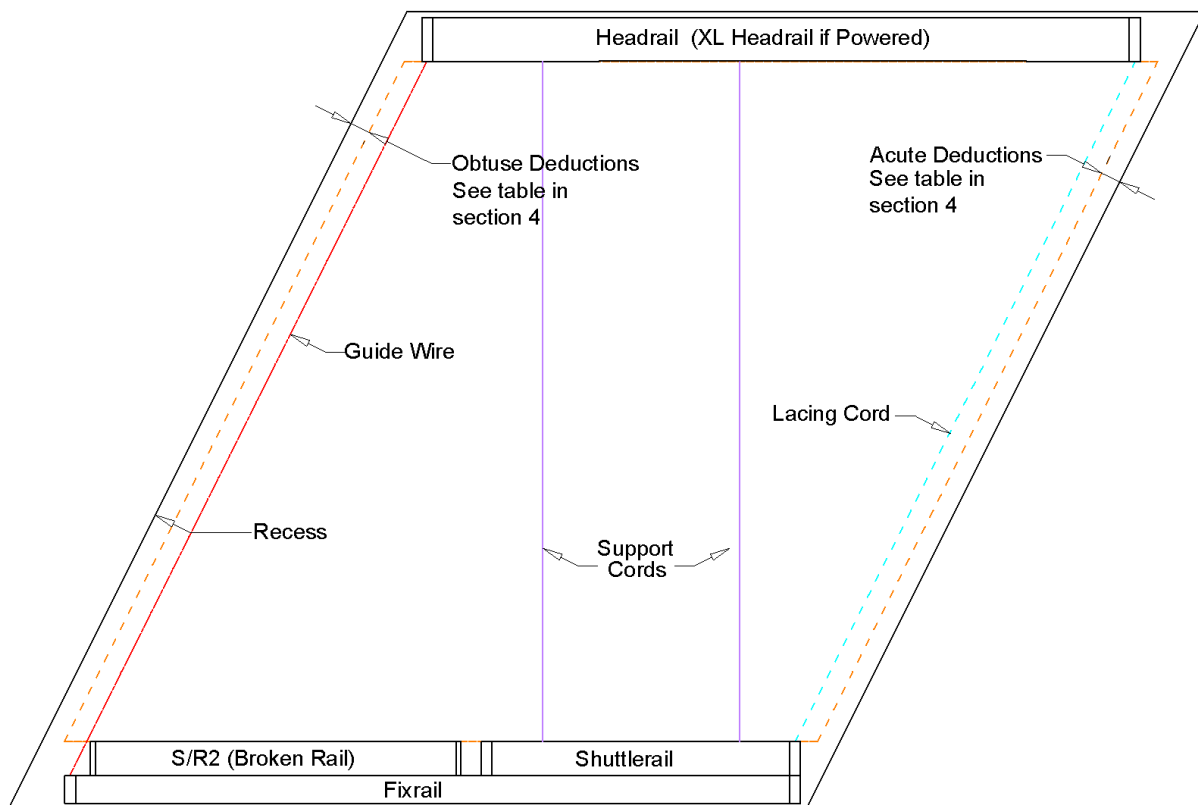

Fig 1 – SKYsol keyword drawing
- **2-Bar:** The 2-bar format has a headrail (being one bar) and a shuttle rail (the second bar) - see Figs 1 and 4 on Page 6. 2 Bar blinds have individual fixing blocks with the guide wires and cording being fixed into these blocks which are then fitted to the boat. The 2 Bar format can be used with both rectangles and *most* shapes. Powered blinds are not supported in a 2 Bar format unless AO type (see section 10. Type)
- **3-Bar:** The 3 Bar format can be used with rectangular and standard shaped blinds. Instead of individual fixing blocks, the cording and guide wires are fixed into this third bar (fix rail) – see Figs 1 and 4 on Page 6. This bar is mounted in the same way as the top headrail using fixing clips. The main advantage of the 3-Bar format is that it is quicker and easier to install.